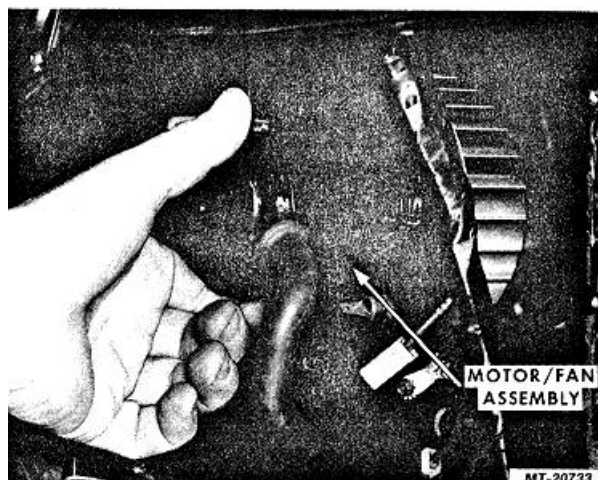

Fig. 38 Blower Motor/Fan Removal
6. Remove mounting screws and remove motor/ fan assembly from blower housing (Fig. 38).